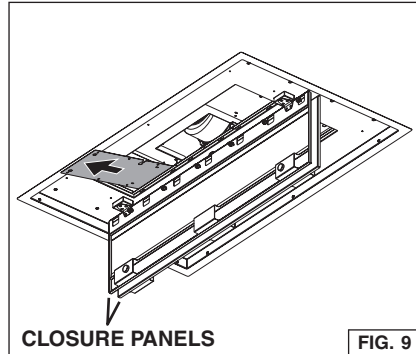

FIG. 9
1. From the room interior, pull down both closure panels. Fig. 9.
2. Remove (4) screws from the electrical compartment access panel. Slide the panel sideways to expose the electrical wiring box.